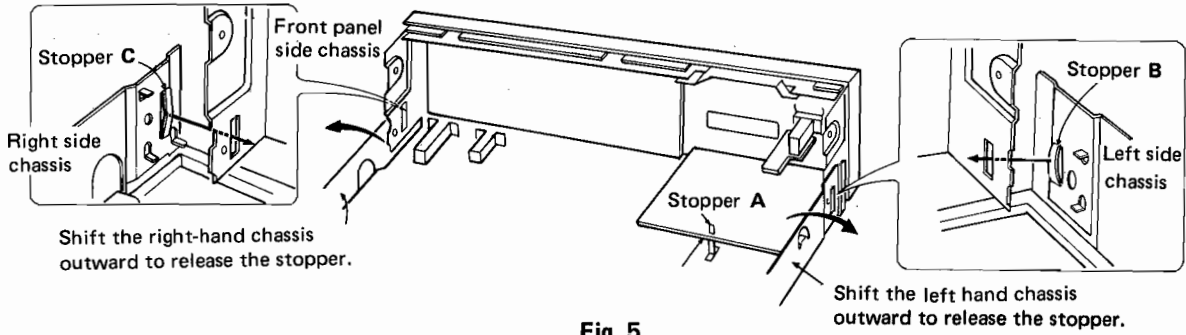

Fig. 5
5. Shift the right and left chassis outward as shown in Fig. 5 to release the stoppers B and C out of the chassis holes on the front panel side.